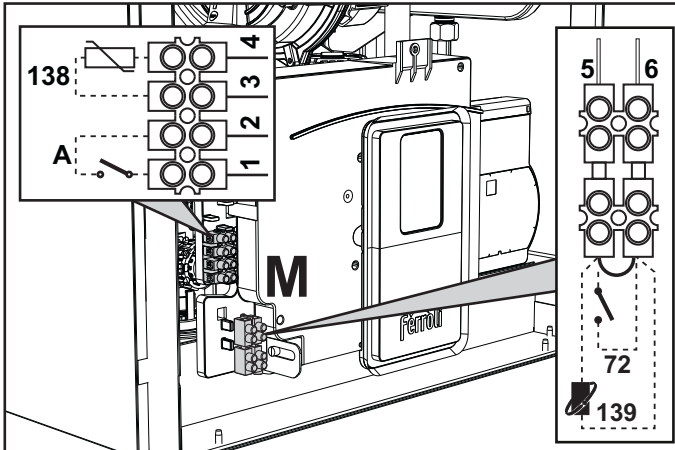
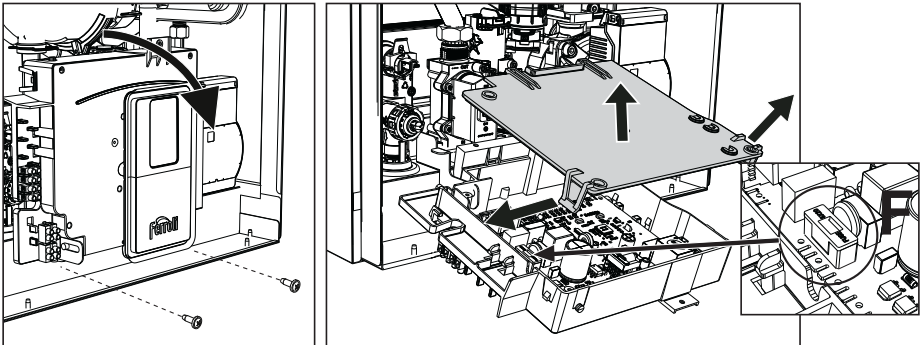

fig. 28
fig. 29
Remove the front panel ("Opening the front panel" on page 334) to access the terminal block (M) and fuse (F) by proceeding as follows (fig. 28 and fig. 29). **The terminals indicated in fig. 28 must be with voltage-free contacts (not 230V).** The arrangement of the terminals for the various connections is also given in the wiring diagram in fig. 67.
ON/OFF (A fig. 28) configuration